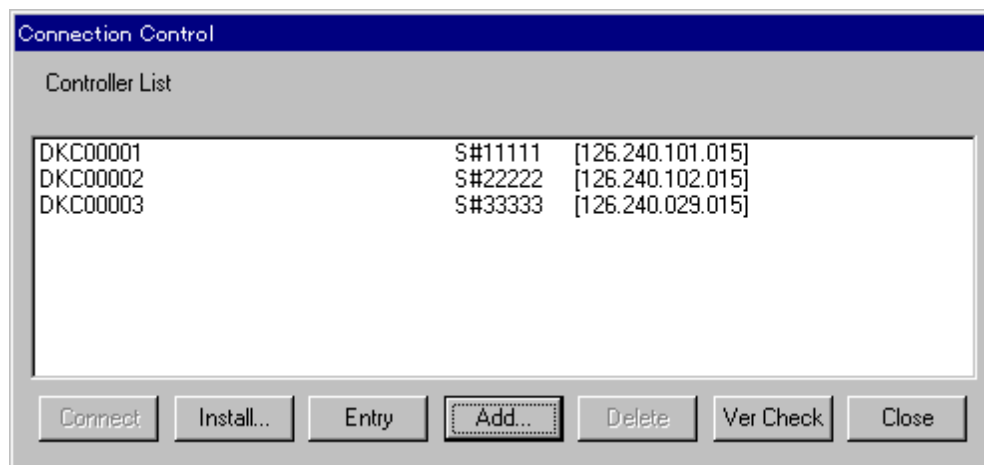

Figure 2.5 Connection Control Panel
To access the DKCMAIN Option Product panel, select the **Controller...** button on the Remote Console Main panel, select the first subsystem on which you want to enable the option on the Connection Control panel (see Figure 2.5), and then select the **Install...** button.
8. On the Remote Console Main panel, select **Controller...** to open the Connection Control panel (see Figure 2.5).
The Connection Control panel (refer to Figure 2.5) displays the registered 9900 subsystems and allows you to connect to a 9900 subsystem. To access the connect function, open the Connection Control panel by selecting the **Connect...** button on the Remote Console Main panel. The connect function is available to all users.
1. On the Remote Console Main panel, select **Connect...** to open the Connection Control panel (refer to Figure 2.5).